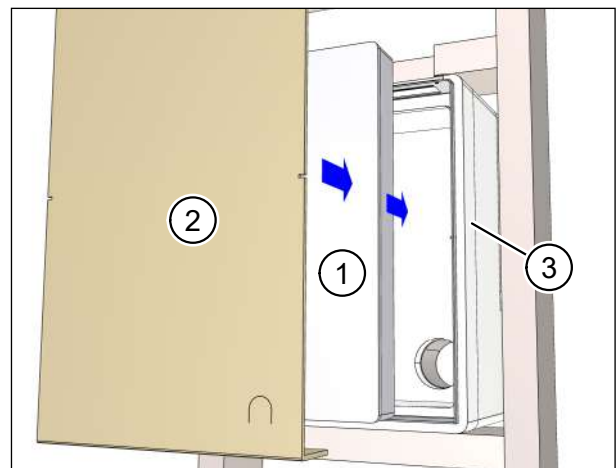

Fig. 53: Inserting the protective cover and plaster cover
- Insert the protective cover (item 1 in Fig. 53) into the wall box (item 3 in Fig. 53).
- Insert the plaster cover (item 2 in Fig. 53) into the wall box (item 3 in Fig. 53) as far as it will go.